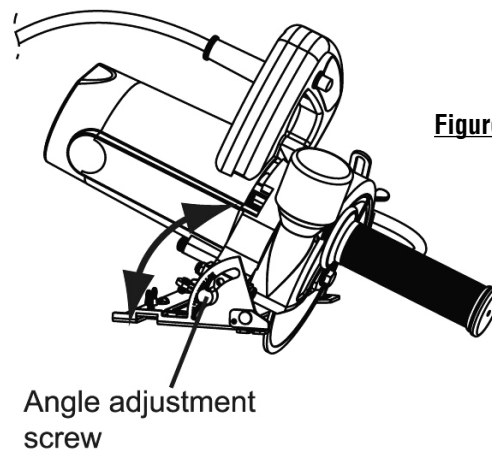

Figure 7
1. Loosen angle adjustment screw (see fig. 7).